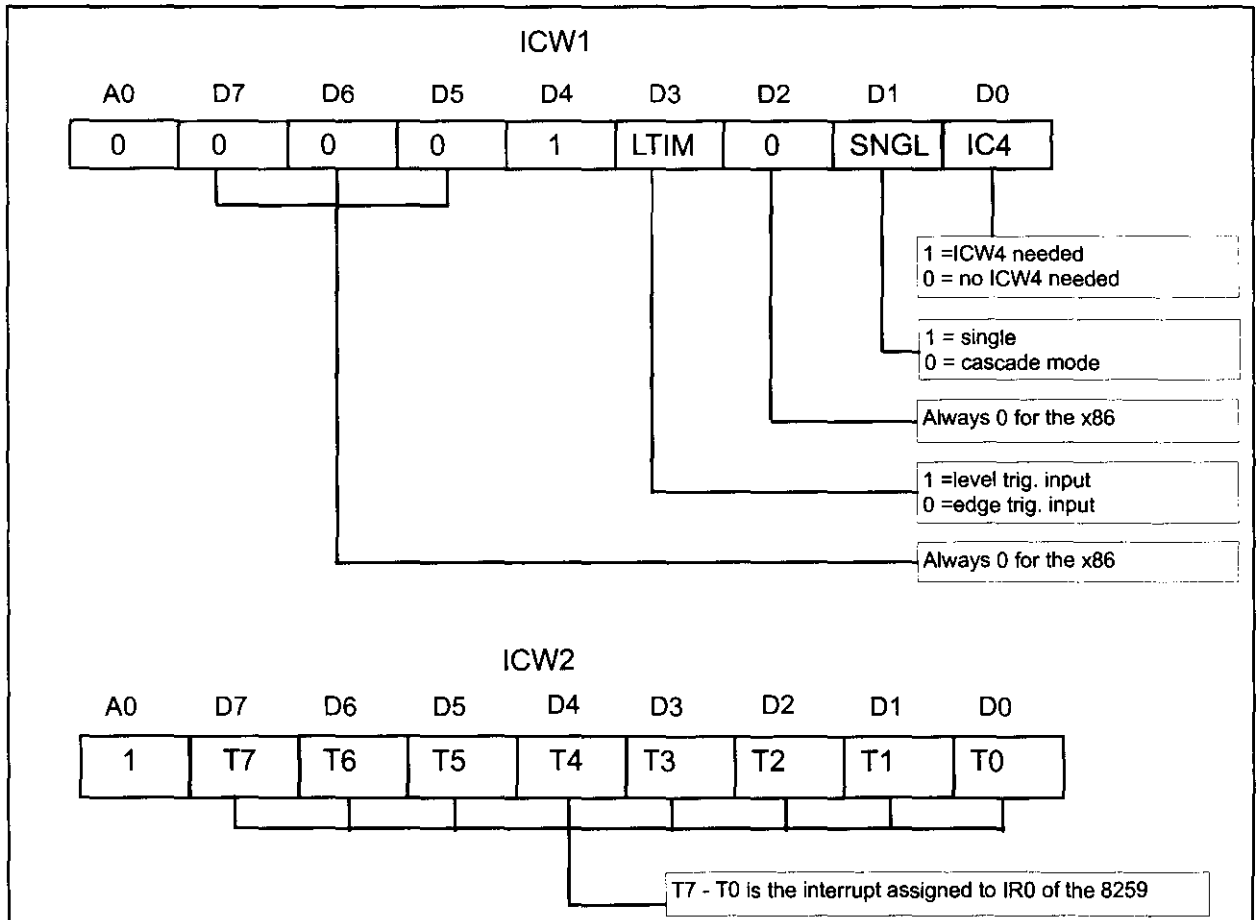

Figure 14-5. ICW Formats (ICW1 and ICW2) for the 8259
In looking at Table 14-3, the question might arise: How can the 8259 make a distinction between ICW2, ICW3, and ICW4 when they are sent to the same address? This is one of the functions of ICW1. D0, the LSB of ICW1, will tell the 8259 if it should look for ICW4 or not. In a similar manner, if D1 is high it knows that the system is configured in slave mode and it should not expect any ICW3 in the initialization sequence. The initialization sequence must always start with ICW1, followed by ICW2, and finally the last one, if needed. There is no jumping ahead. D2 is always set low (= 0) for the 80x86. D3 chooses between level triggering or edge triggering of the input signals IR0 - IR7. In edge triggering, a low-to-high input is recognized as an interrupt request. In level triggering, a high on the IR is recognized as an interrupt request. D4 must always be high. D5, D6, and D7 are all low for the 80x86 microprocessors (they are used only for the 8080/85). See Figure 14-5.
It is the function of ICW2 to assign interrupt numbers to IR0 - IR7. While the lower three bits, D0, D1, and D2, vary from 000 to 111, they, along with D3 - D7 (T3 through T7), form the 8-bit INT type number assigned to the corresponding IR0 through IR7. That means that D3 - D7 can only be programmed according to the assignment of the INT type, with the lower bits being provided by the 8259, depending on which of IR0 to IR7 is activated. See Figure 14-5.
- (a) From Figure 14-5, we get the following for each of the ICWs:
This gives ICW1 = 00011011 = 1BH. To get ICW2, look at Table 14-4. Always equate ICW2 to the INT # assigned to IR0: ICW2 = 01010000 = 50H. Notice that "INT nn", assigned to IR0, can decide only bits D7 - D3 (T7 - T3 in Figure 14-5) of ICW2. This means that the "INT nn" assigned to IR0 must have the lower three bits = 000; therefore, it can take either values of X0H or X8H, where X is a hex number. For example "INT 45H" cannot be assigned to IR0.